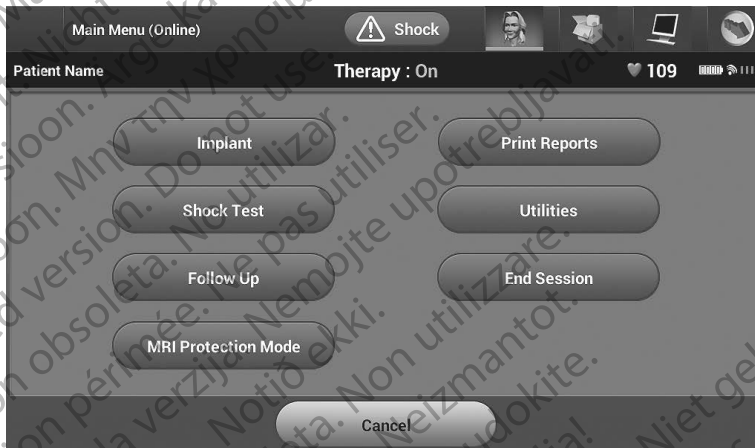

Figure 8: Main Menu screen
2. Select the End Session button (Figure 8).